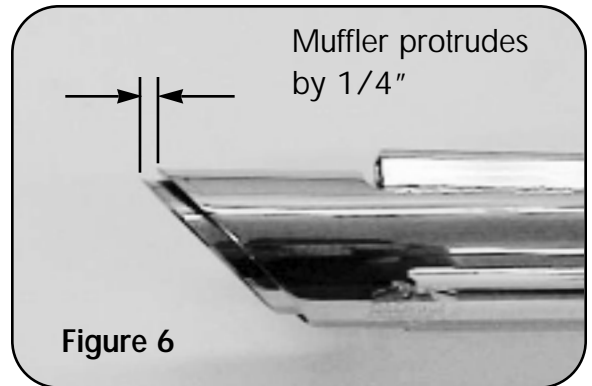

Figure 6
12. Tighten all heat shield clamps. **Note:** muffler bodies should protrude from heat shields by 1/4" (Figure 6).